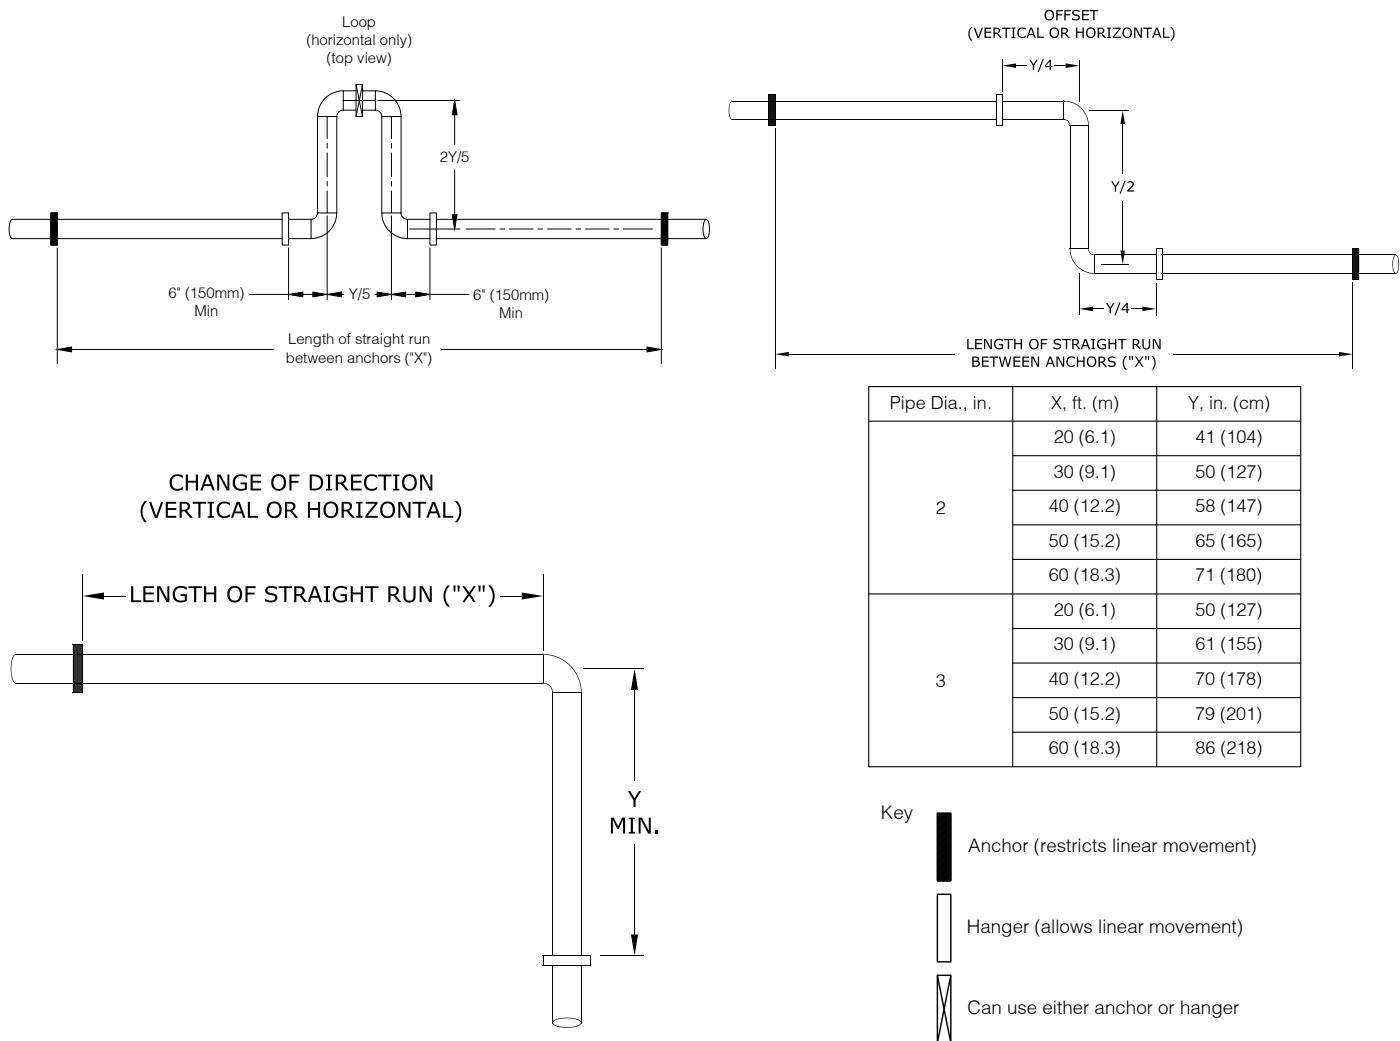

Figure 7-15: CPVC/PVC Venting Expansion Loops
7. Allow for 3/8 in. (9.5 mm) of thermal expansion per 10 ft. (3.0 m) of CPVC/PVC pipe. If a straight run of pipe exceeds 20 ft. (6.0 m) and is restrained at both ends, an offset or expansion loop is required per Figure 7-15. If a straight horizontal run of pipe exceeds 20 ft. (6.0 m) and is restrained at one end with an elbow at the other, ensure hanger or guide is not less than Y in from elbow per Figure 7-15. Thermal expansion fittings not permitted.